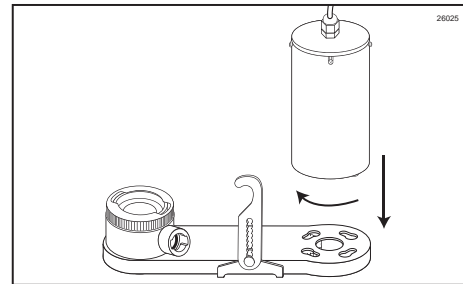

Figure 134
- Insert the Drive Motor into the Drive Assembly Gear Box so that all four locking screws are seated properly and rotate the motor clockwise to secure. (See Figure 134.)